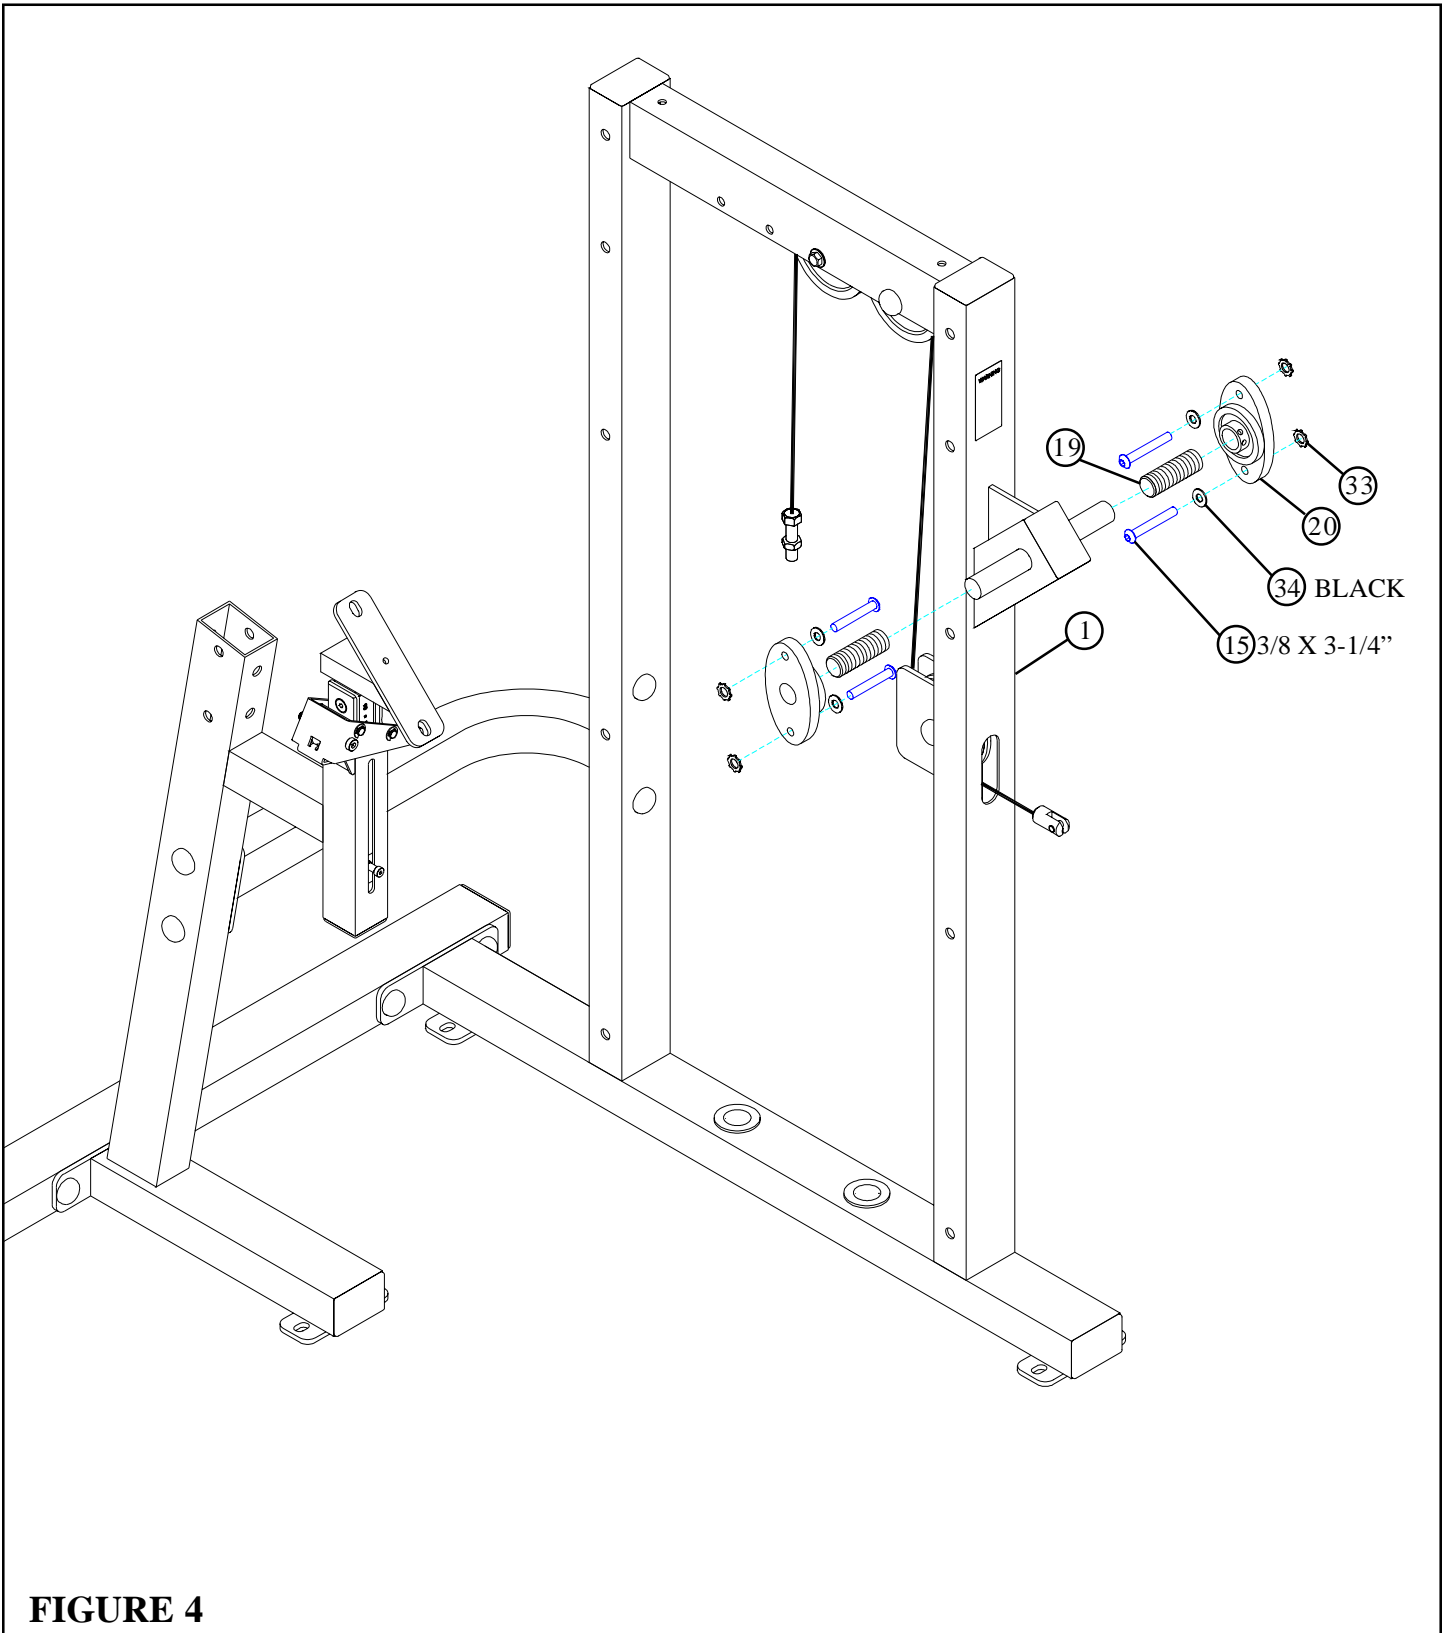

FIGURE 4
- Slide two ACCORIDIAN SLEEVES (19) over the shafts on the TOWER (1) as shown in FIGURE 4.
- Slide two PILLOW BLOCKS (20) over the shaft on the TOWER (1) as shown in FIGURE 4.
- Assemble four 3/8 X 3-1/4" BUTTON HEAD CAP SCREWS (15) , four 3/8" BLACK SAE WASHERS (34) and four STAR-LOCK WASHERS (33) to the the PILLOW BLOCKS (20) as shown in FIGURE 4